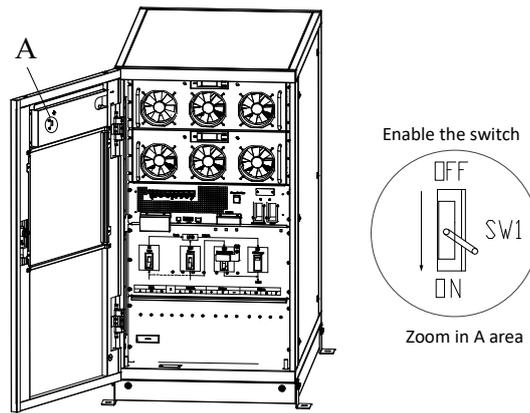

Figure 5-1 Enable the switch
- 2) Press and hold the BYP key on the operator control panel for longer than two seconds and the system transfers to bypass mode. This needs to enable the switch behind the front door. See Figure5-1.